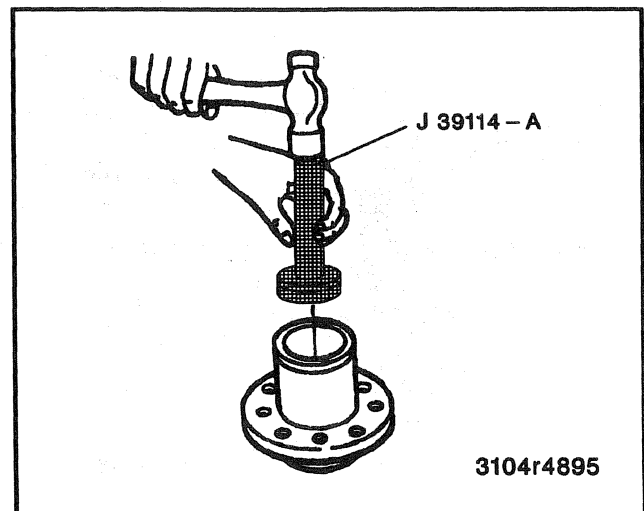

Figure 33—Installing Oil Seal Into Hub
5. New oil seal using J 39114-A (Figure 33).